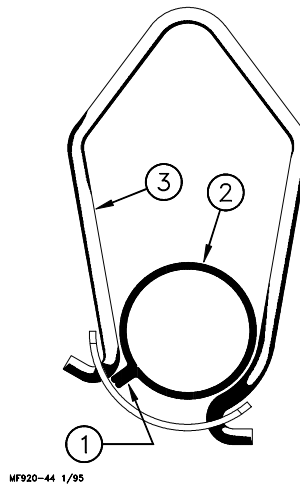

Figure 40. Hanger Installation
3. To achieve total feed drop out all along the system, the mark "CONT" should be centered at the crown of the tubes and all the Hangers should be installed as shown in Figure 40.
5. Install the Hangers on the trough at the 8' (2.4 m) spacings determined by the suspension drop lines. Figures 40 and 43 show the proper installation of the Hanger Assembly. Make sure the outlet drop hole is downward when the Hangers are installed, otherwise feed will not be allowed to drop into the feeder pan.